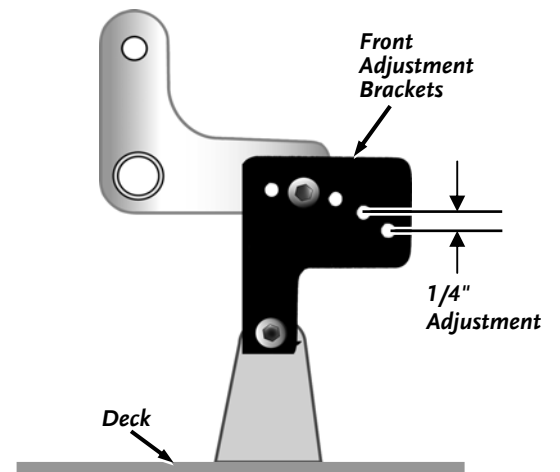

Figure 20
3. You can make further adjustments front to back by adjusting the Front Brackets (**Figure 20**). Each adjacent hole will alter the deck height by 1/4" front to back if you move both Front Brackets at the same.